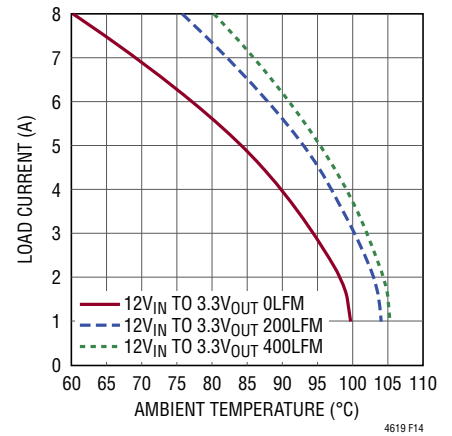

Figure 14. 12VIN to 3.3VOUT without Heat Sink
1.5V power loss curve at 5A, and the 1.35 multiplying factor at 120°C ambient. If the 95°C ambient temperature is subtracted from the 120°C junction temperature, then the difference of 25°C divided by 1.83W equals a 13.6°C/W  $\Theta_{JA}$  thermal resistance. Table 2 specifies a 13.4°C/W value which is pretty close. The airflow graphs are more accurate due to the fact that the ambient temperature environment is controlled better with airflow. As an example in Figure 14, the load current is derated to 5A at ~95°C with 400LFM of airflow and the power loss for the 12V to 3.3V at 5A output is ~2.5W. The 2.5W loss is calculated with the ~1.85W room temperature loss from the 12V to 3.3V power loss curve at 5A, and the 1.35 multiplying factor at 120°C ambient. If the 95°C ambient temperature is subtracted from the 120°C junction temperature, then the difference of 25°C divided by 2.5W equals a 10°C/W  $\Theta_{JA}$  thermal resistance. Table 2 specifies a 9.7°C/W value which is pretty close. Tables 2 and 3 provide equivalent thermal resistances for 1.5V and 3.3V outputs with and without airflow and heat sinking.
| Figures 14, 16 | 12, 24              | Figure 9         | 0             | none         | 13.4                   |
| Figures 14, 16 | 12, 24              | Figure 9         | 200           | none         | 11.2                   |
| Figures 14, 16 | 12, 24              | Figure 9         | 400           | none         | 9.7                    |